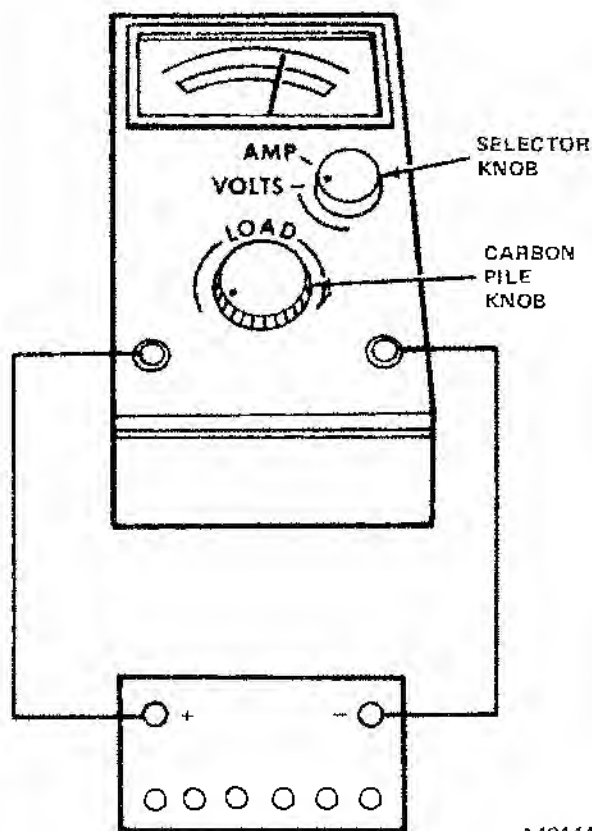

Fig. 3-6 Heavy Load Test
(1) Before performing a heavy load test, battery must be fully charged (refer to Slow Charge).
(2) Turn carbon pile knob of battery tester to OFF position.
(3) Turn selector knob to AMP position.
(4) Connect test leads as shown in figure 3-6.
(5) Turn carbon pile knob clockwise until ammeter reading is equal to three times the ampere hour rating of the battery: